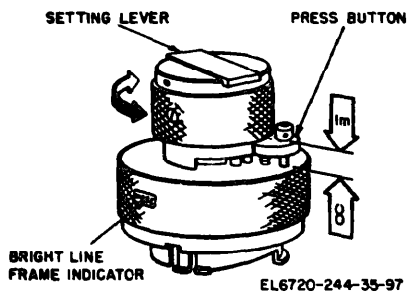

Figure 6-17. Frame setting gauge 42-253.01-Z1A107.
(9) Frame setting gauge 42-253.01-Z1A107 (fig. 6-17).
(i) Mount the frame setting gauge (fig. 6-17) in the lens mounting flange, and place the setting lever of the gauge at midpoint to position the 50-mm bright-line frame.
(l) Release the setting lever (fig. 6-17) and rotate the front portion of the frame setting gauge to the 50-mm position.
(n) Release the setting lever (fig. 6-17) and rotate the front portion of the frame setting gauge to the 35-mm position.